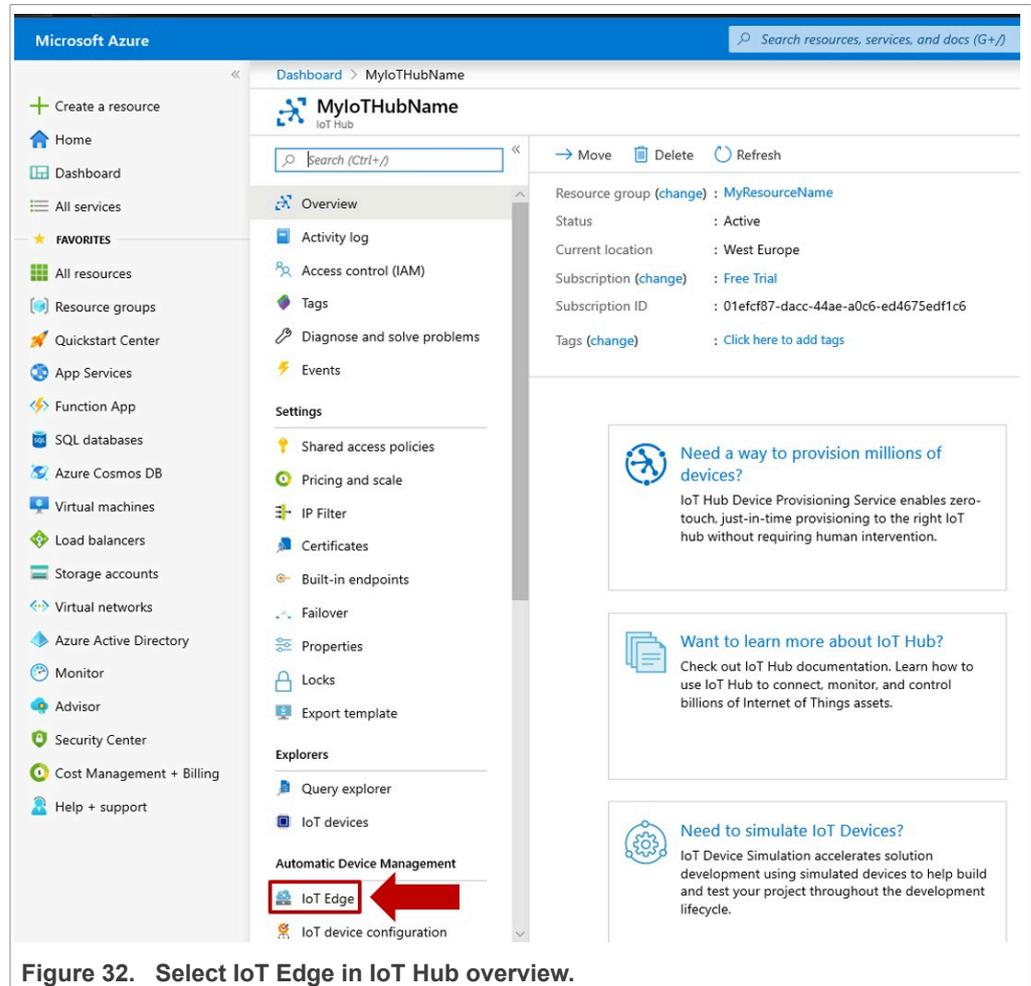

Figure 32. Select IoT Edge in IoT Hub overview.
- To confirm the device connection, go to IoT Hub in the Azure dashboard and click on **IoT Edge** as shown in Figure 32.